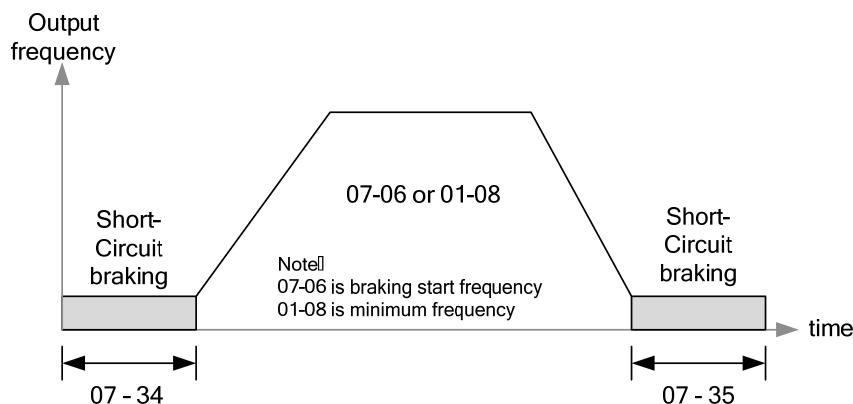

Figure 4.3.57b PMSLV short-circuit braking
**(2) When control mode is PMSLV (00-00=5) :**
- Please refer fig 4.3.57b for short-circuit braking function.